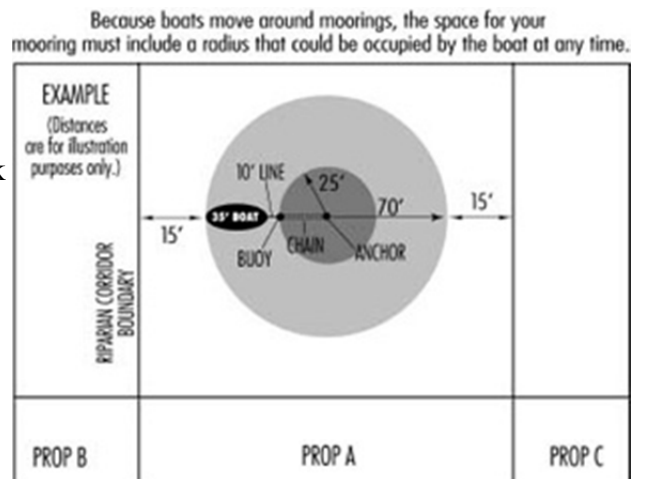

Figure 4.14
- When you plan the location of your mooring, you must consider the boat as well. The space for a mooring must include a radius around the mooring that could be occupied by the boat at any time (see Figure 4.14).